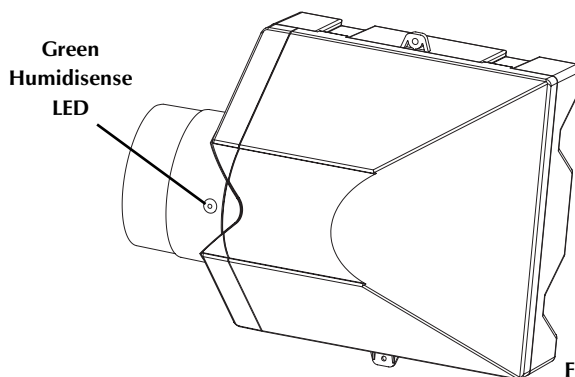

Figure 24
5. Depending on your furnace type the unit should turn on within approx 60 seconds of the furnace entering the HEATING cycle. You will know because the green "HUMIDISENSE" LED on the front of unit will turn on (fig 24.) If the unit does not turn on refer to the trouble shooting section in the Maintenance Guide.
7. After about 5 minutes of running turn your thermostat down so the furnace cycles off. IT IS IMPORTANT TO ALLOW THE FURNACE TO CYCLE OFF VIA THE THERMOSTAT AND NOT THE MAIN FURNACE SWITCH, AS ALL FURNACES WILL RUN A COOL DOWN TO ALLOW HEAT TO CIRCULATE OUT OF THE FURNACE HEATING CHAMBER. The humidifier will sense the temperature drop and shut off (this will occur depending on your furnace, from 60 seconds before the furnace shuts off to 60 seconds after the furnace shuts off.) You will know the humidifier has shut off because the green "HUMIDISENSE" LED on the front of the humidifier will shut off. (fig. 24) The off cycle of the "HUMIDISENSE" CONTROL IS ADJUSTABLE. See section "CUSTOMIZING HUMIDISENSE TO YOUR FURNACE" below if the humidifier does not shut off with your furnace.
4. Once the HUMIDISENSE control senses heat the humidifier will turn ON. You will know because the green "HUMIDISENSE" LED (fig. 24) on the front of the humidifier will turn ON.
6. After your furnace has completed the heating cycle and shut off (by the thermostat) the humidifier will cycle OFF. You will know because the green "HUMIDISENSE" LED (fig. 24) on the front of the humidifier will turn OFF